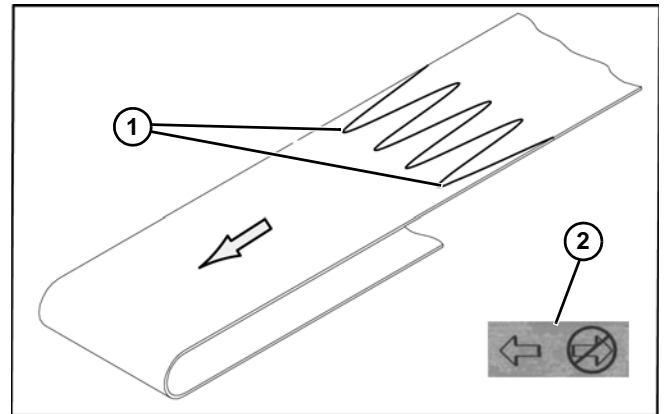

Figure 55
1. Orient belt so splice leading fingers (**Figure 55, item 1**) point in the direction of belt travel as identified by the conveyor directional label (**Figure 55, item 2**).
2. Orient belt so splice leading fingers (**Figure 55, item 1**) point in the direction of belt travel as identified by the conveyor directional label (**Figure 55, item 2**).